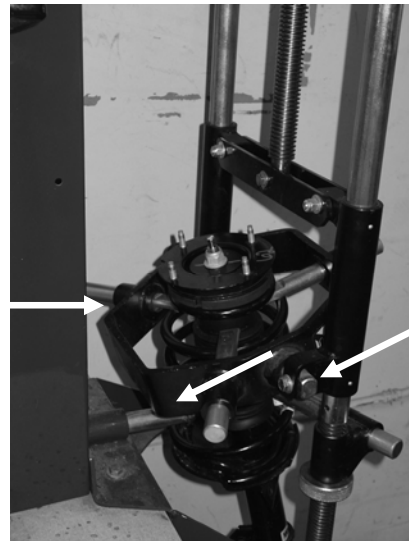

Figure 1
1. Place the stock strut in the spring compressor. Place the bottom end of spring on the three lower clamps, making sure to tilt it toward the rear enough to place the impact wrench and 21 mm socket onto the central nut on top of the strut assembly. (Figure 1)